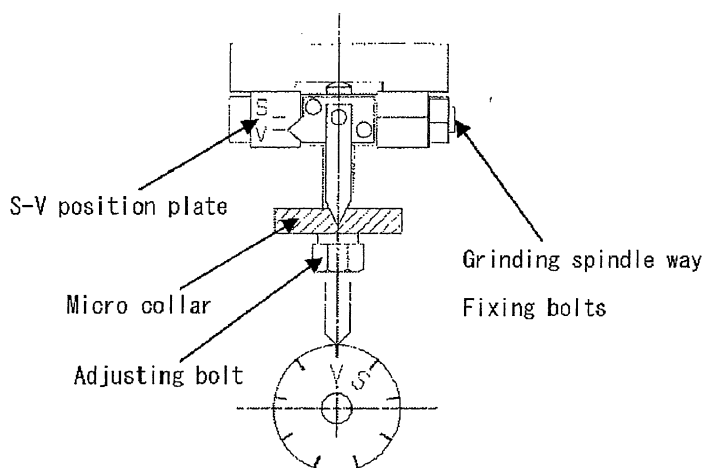

Fig.12
- Slightly loosen the nut of the wheel spindle way(33) clamping bolt(34).
While the mark of 30.5° on the S-V position plate(76) is in agreement with the pointer A(77). (As shown in Fig. 12)